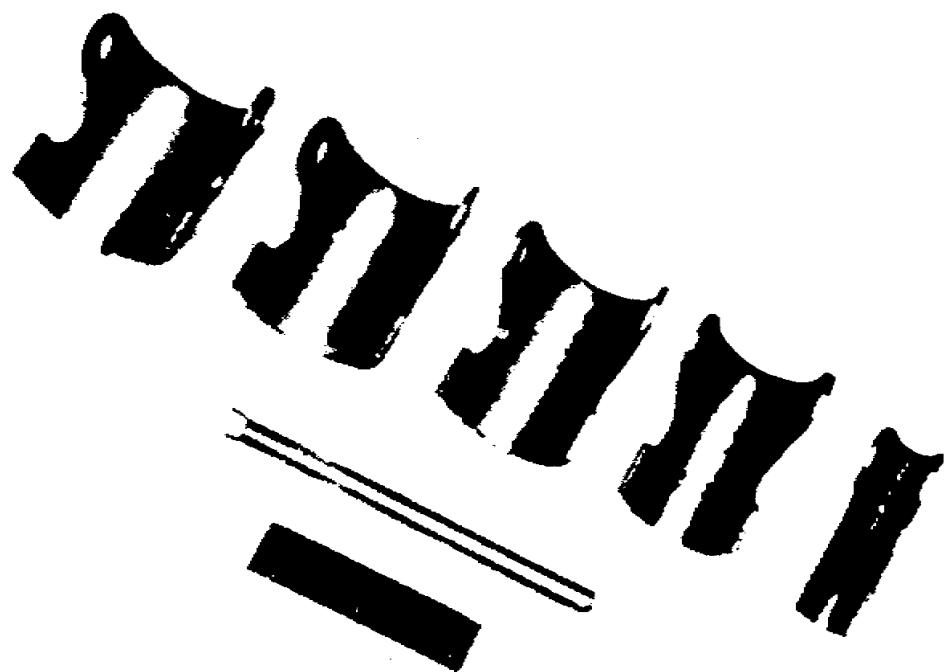

Figure 8. Wrenches: set of five spanners and handle.
- (3) Spanners (fig. 8). This spanner wrench set consists of five pressed steel spanners of several sizes, together with a handle. They are specially designed for the purpose of tightening and unfastening Amphenol connector locking rings. Such rings serve to hold the receptacle portion of the Amphenol connector to the chassis of an equipment or equipment component. Power cables, audio cables, and other types of interconnecting cables often have Amphenol plugs